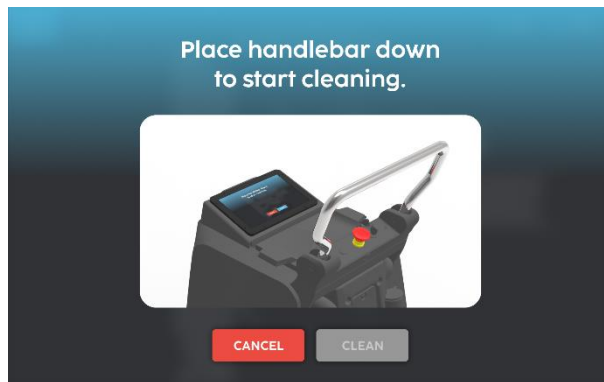

Fig. 8
7. Place the handle bar down to start cleaning (Fig 8).